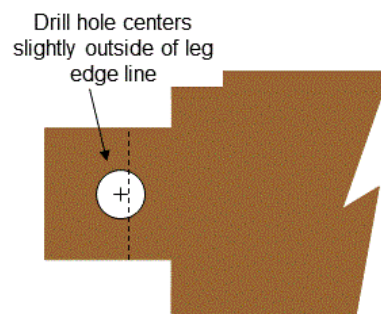

Figure 10
2. Dis-assemble the rack and drill  $\frac{1}{2}$ " holes in the center of each tenon, with the hole center just outside the edge line marked on each tenon. See figure 10. Cut the dowel so you have six 4" pieces of dowel for pegs. Sand the side of one end on each peg so the peg is sloped for about  $3\text{-}\frac{1}{2}$ " of each peg.